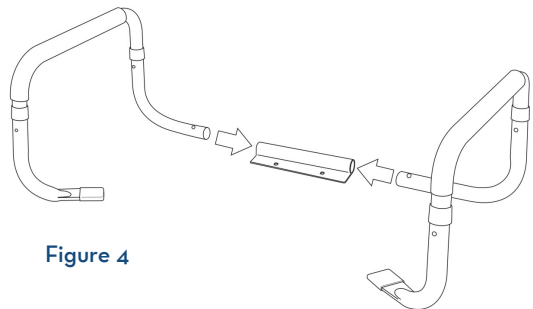

Figure 4
5. Insert armrest into the now-attached frame bracket, making sure push pins protrude all the way through the adjustment holes. Armrests can be adjusted by depressing push pins and setting to desired width. (Figure 4)